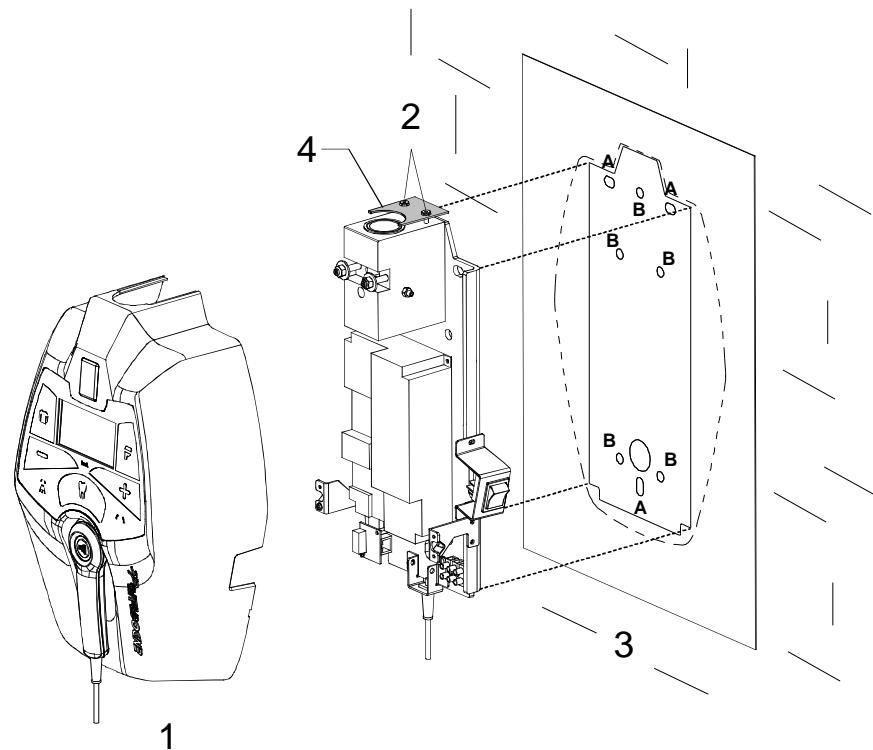

Figure 6-1
1. To be sure that the equipment is in the correct position we recommend you put the provided template code 39599100 (3 - Figure 6-1) in the requested position, in this way identifying the requested wall-mounting position. Considering the overall dimensions of the equipment, put the top part of the template at 1450 mm from the floor.
3. Remove the plastic timer cover (1 - Figure 6-1) loosening the two sealing screws (2 - Figure 6-1) placed on the top part.
Do not remove completely the screws and the relevant plate (4 - Figure 6-1); with the extention arm in place, will not be possible to reassemble the plate.